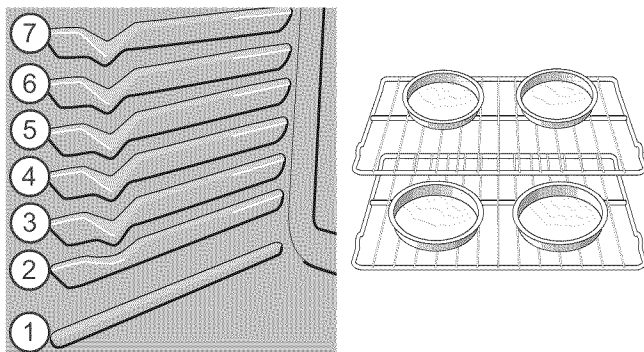

Figure 21: Rack positions and pan spacing recommendations
- When baking using 2 oven racks, position bakeware as shown in Figure 21. Allow at least 2 inches (5 cm) of space between bakeware for proper air circulation.